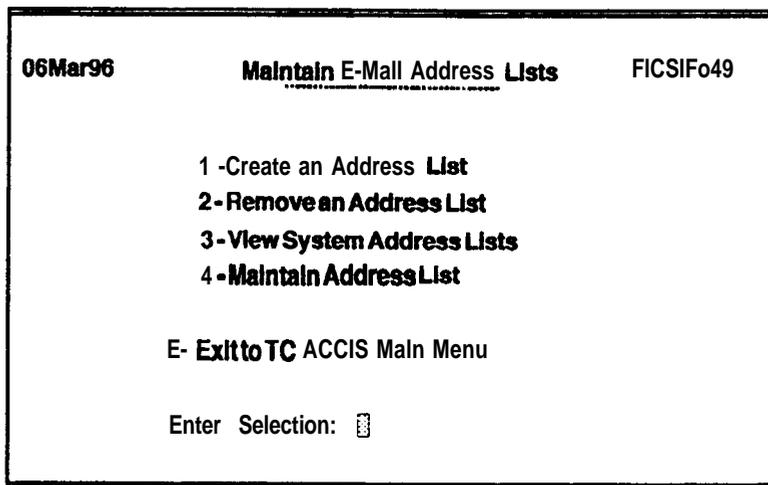

Figure 7-4. Maintain Email Address Lists Menu
2. Select the **Maintain E-Mail Address List** option. The Maintain E-Mail Address Lists menu is displayed (see Figure 7-4) with the following options:
3. While in the Maintain **Email** Address Lists Menu (see Figure 7-4) press **1** to create an